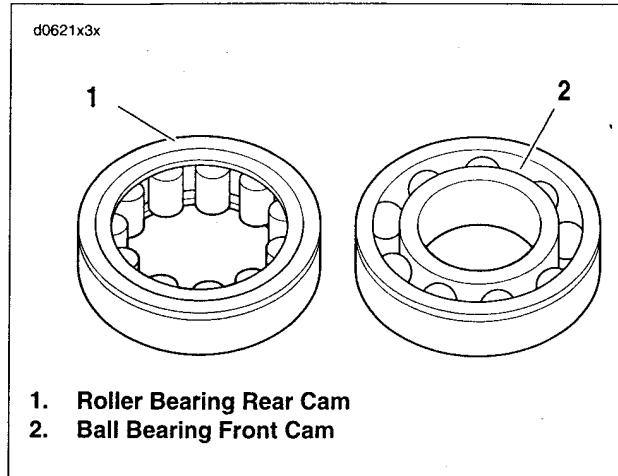

Figure 3-136. Cam Bearings
See Figure 3-136. Be aware that the front (2) and rear cam bearings (1) are not interchangeable. The rear bearing is the roller type, while the front is the ball bearing kind.